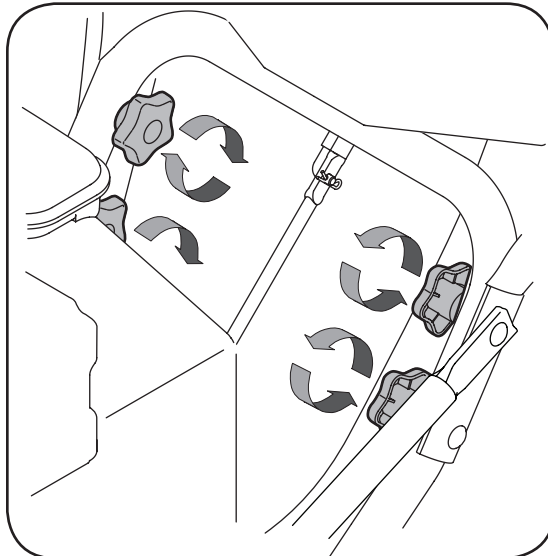

Figure 3-2
- a. Secure the upper handle and lower handle with the two star knobs and carriage bolts removed earlier. See Figure 3-2.